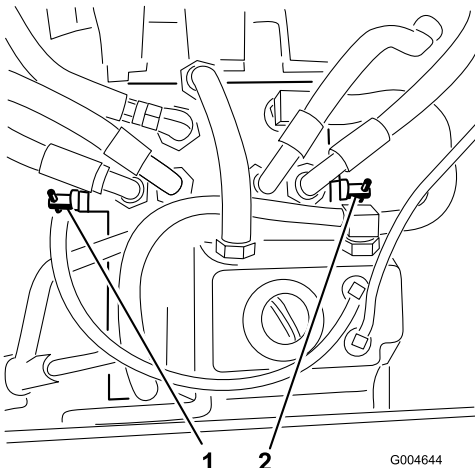

Figure 51
3. Rotate **both** by-pass valves counterclockwise 2 turns (Figure 51).
Rotate each by-pass valve clockwise and hand tighten them (torque of approximately 71 in-lb (8 N·m)) (Figure 51).